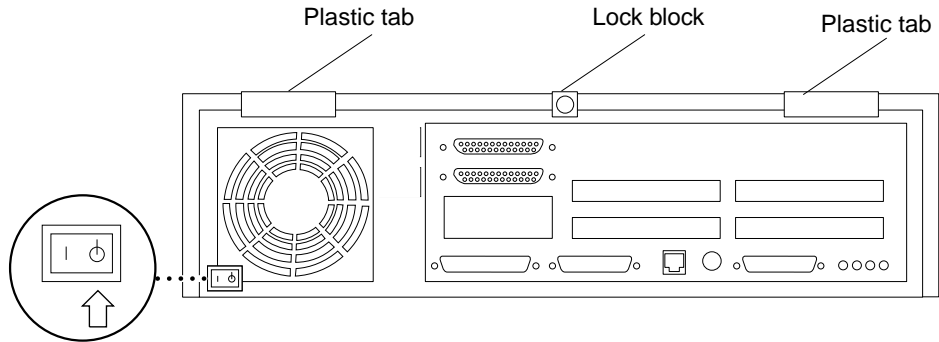

**FIGURE 3-8** Lowering the Cover Onto the System Unit Back Panel
3. Slowly lower the cover onto the system unit so that the rear of the cover seats with the chassis back panel (see FIGURE 3-8).